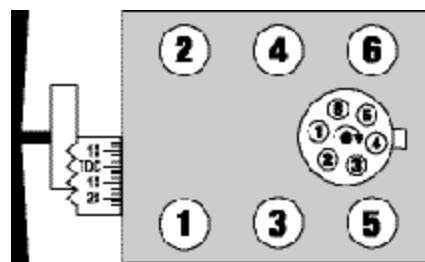

Figure 2- Chevrolet/GMC 4.3L V6
2. The above procedure assures correct lifter pre-load. Repeat this procedure for each of the other seven cylinders by rotating the engine 120° and following the firing order (1-6-5-4-3-2). *See Figure 2*.